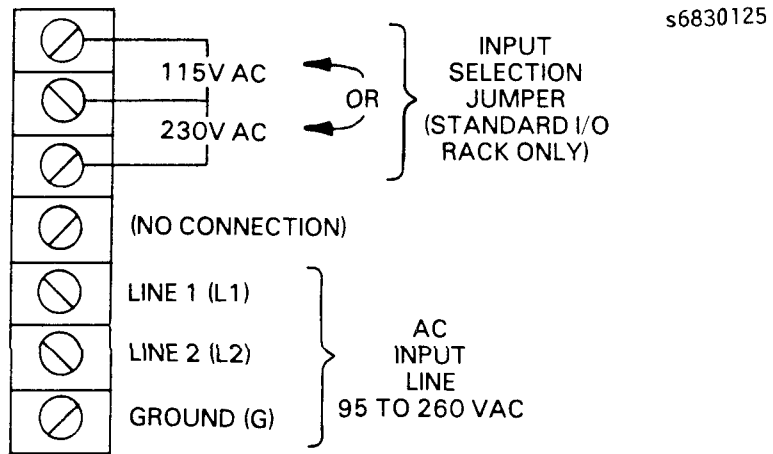

Figure 3. I/O RACK FRONT-PANEL TERMINAL BLOCK
| <p>1. 41P-PIN BACKPLANE CONNECTOR MATES WITH CONNECTOR ON A PLUG-IN MODULE.</p> <p>2. POWER-SUPPLY FRONT-PANEL TERMINAL BLOCK. SEE "INSTALLATION" SECTION AND FIGURE 3 OF THIS DATA SHEET.</p> <p>3. LOGIC-POWER SWITCH</p> | <p>4. DIP SWITCHES TO SET I/O MODULE ADDRESS</p> <p>5. POWER LIGHT</p> <p>A. ON: THE DC VOLTAGE OUTPUT OF THE POWER SUPPLY IS WITHIN TOLERANCE</p> <p>B. OFF: DC VOLTAGE IS OUT OF TOLERANCE</p> |
- 1. The I/O rack can be rack-mounted or panel-mounted. The location and orientation of the mounting brackets depends on the mount. Refer to Figure 3.
- 2. Refer to Figure 3. Connect a power cord capable of carrying the current drawn by the power supply to the terminal block on the front panel. Safety ground and signal ground connections must be made as described in the Series Six Plus Users Manual. Ensure that the input voltage jumper is positioned correctly and secured (Standard I/O rack only). After the connections have been made, mount the protective cover over the terminal block with the screws provided; make sure that the wires are routed through the opening in the cover.